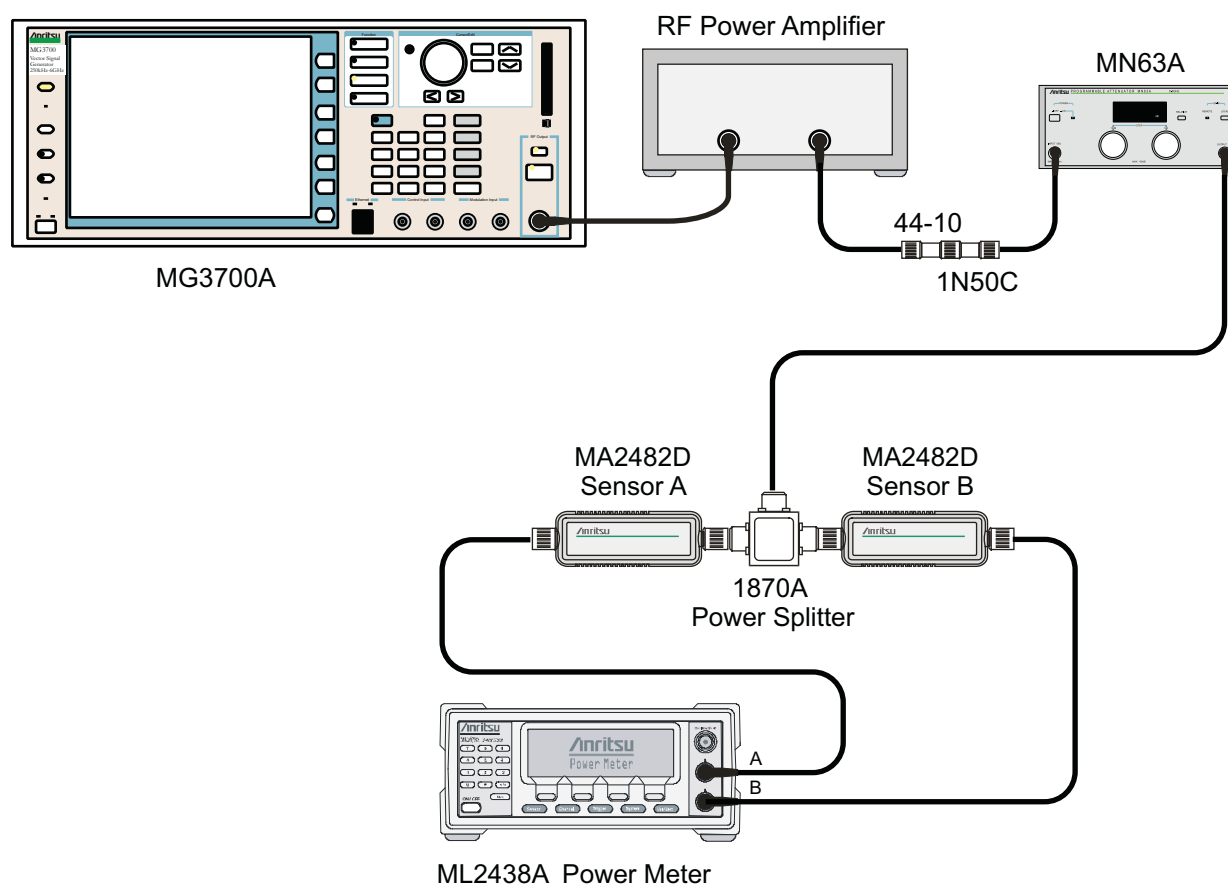

Figure 5-4. ISDB-T SFN Level Accuracy and 1 dB Compression Level Pre-test Setup
3. Connect the MG3700A Signal Generator, Power Amplifier with N(f)-BNC(m) adapters, RF Limiter, MN63A Programmable Attenuator, Power Divider, Power Meter, and Power Sensors as shown in Figure 5-4.
50. Turn Off the power amplifier, disconnect the power splitter from the MT821xE, and re-connect Sensor A to the power splitter, as shown in Figure 5-4 on page 5-20.